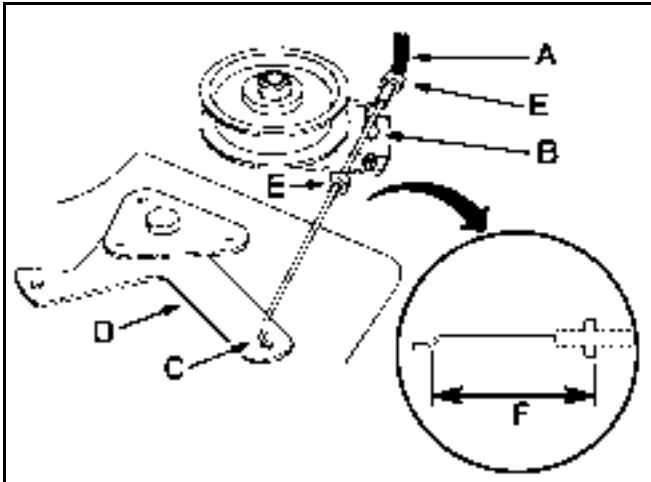
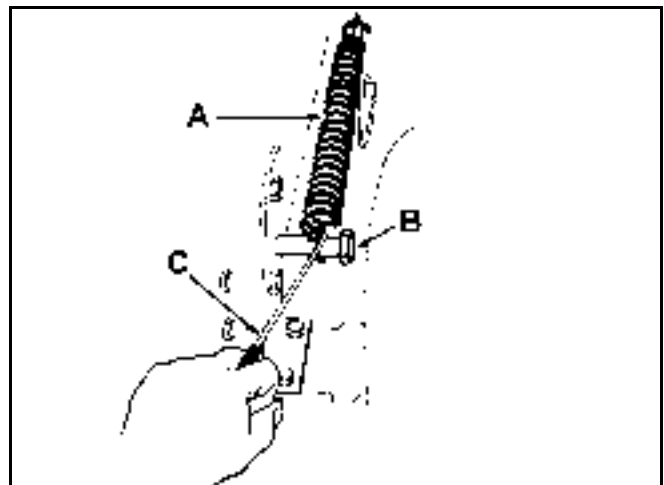

Figure 236
Figure 237
13. Thread first jam nut onto the blade control (PTO) cable all the way. Rout cable through slot in deck bracket and thread second jam nut onto cable (Figure 236).
14. Hook Z end of blade control (PTO) cable into bellcrank arm (Figure 236).
15. Engage blade control (PTO) lever on dash. Measure distance between Z end of cable and mounting bracket (Figure 237). Adjust jam nuts so 3-1/2" (89mm) dimension is obtained (Figure 236).
19. Hook the lift assist spring between the mower right side lift bracket and the retaining bolt (Figure 237) Use the spring tool provided with the machine.